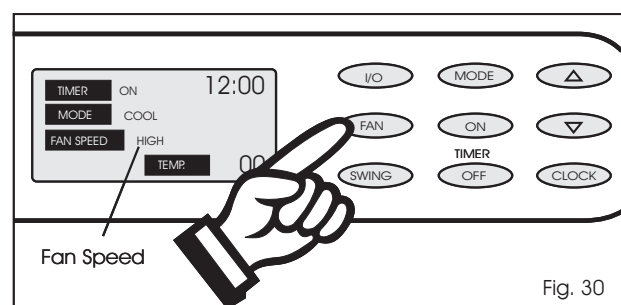

Fig. 30
- 3) Select the appropriate **FAN SPEED** setting, under which you want the unit to operate.(**High, Med,Low**) (**excluding Dehumidifying, as this mode has"1" fan speed setting only** ).Fig.30.